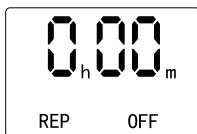

Figure 6-2
- Press the REP button to enter the OFF duration setting, as shown in Figure 6-2.